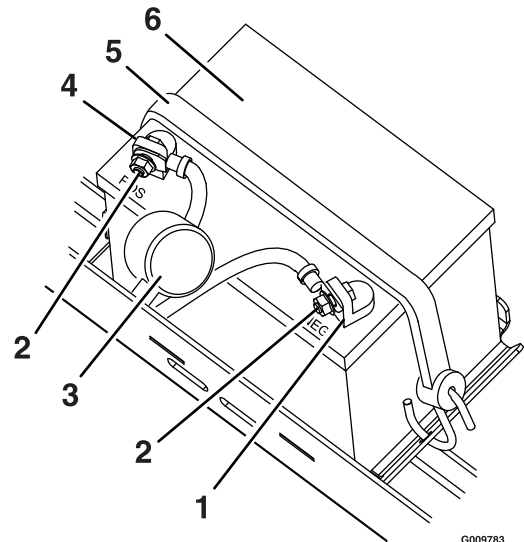

Figure 52
3. Disconnect the negative (black) ground cable from the battery post (Figure 52). Retain all fasteners.
5. Remove the battery strap (Figure 52) and lift the battery from the battery tray.
1. Position the battery in the tray with the terminal posts toward the operating position (Figure 52).
5. Secure the battery with the strap (Figure 52).